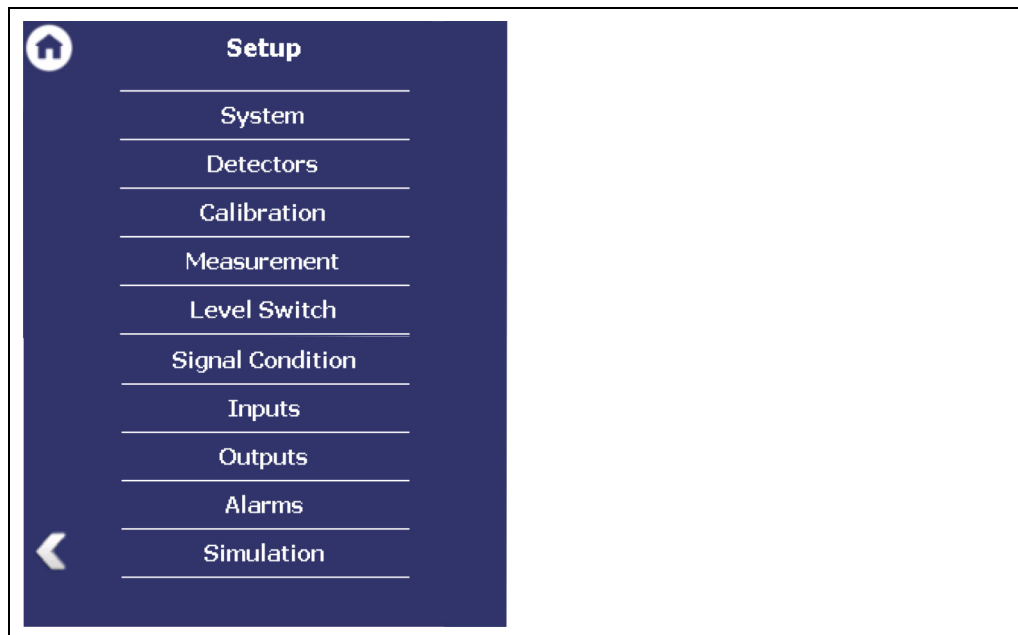

Fig. 27 Menu "Setup"
1. Click on the text field (Fig. 27, item 1.) to open the input field.
4. Click <OK> (Fig. 27, item 2) to confirm.